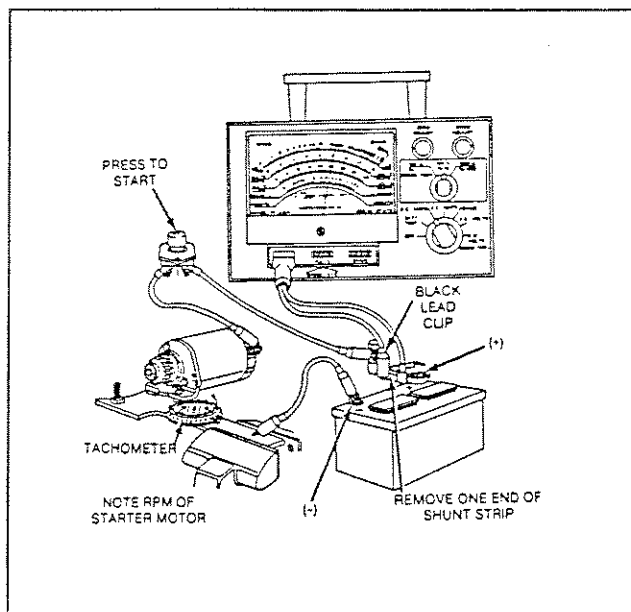

Figure 5. Starter Motor Performance Test
- b. See Figure 5. Connect the starter motor, a fully charged 12 volts battery, a tachometer and an ammeter as shown.